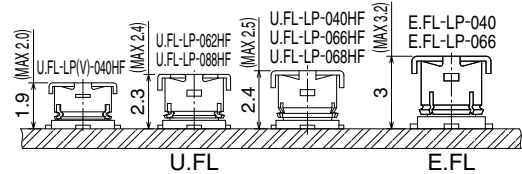

Fig.1
- Nominal mated height of 1.9 or 2.3mm, 2.4mm (Max. 2.0 or 2.4mm, 2.5mm)(Fig.1)**